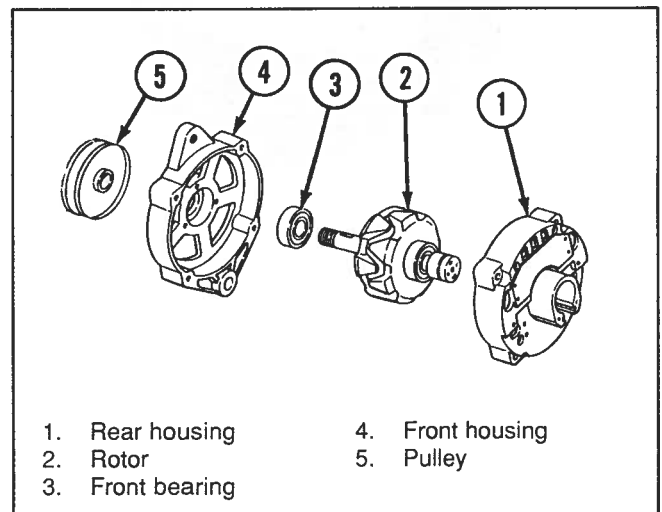

Figure 6-79. Alternator Subassemblies Inspection
- d. Perform the same continuity checks between the three terminals and strap B+ (3). This should show continuity in only one direction through the diodes and all diodes should check alike.
4. Clean and inspect front (4) and rear (1) housings (Figure 6-79):
5. Clean and inspect rotor shaft bearing (Figure 6-79):
6. Inspect the pulley (5) (Figure 6-79) for rough or badly worn belt grooves or keyway and for cracks and breaks. Remove minor burrs and correct minor surface damage; replace a badly worn or damaged pulley.